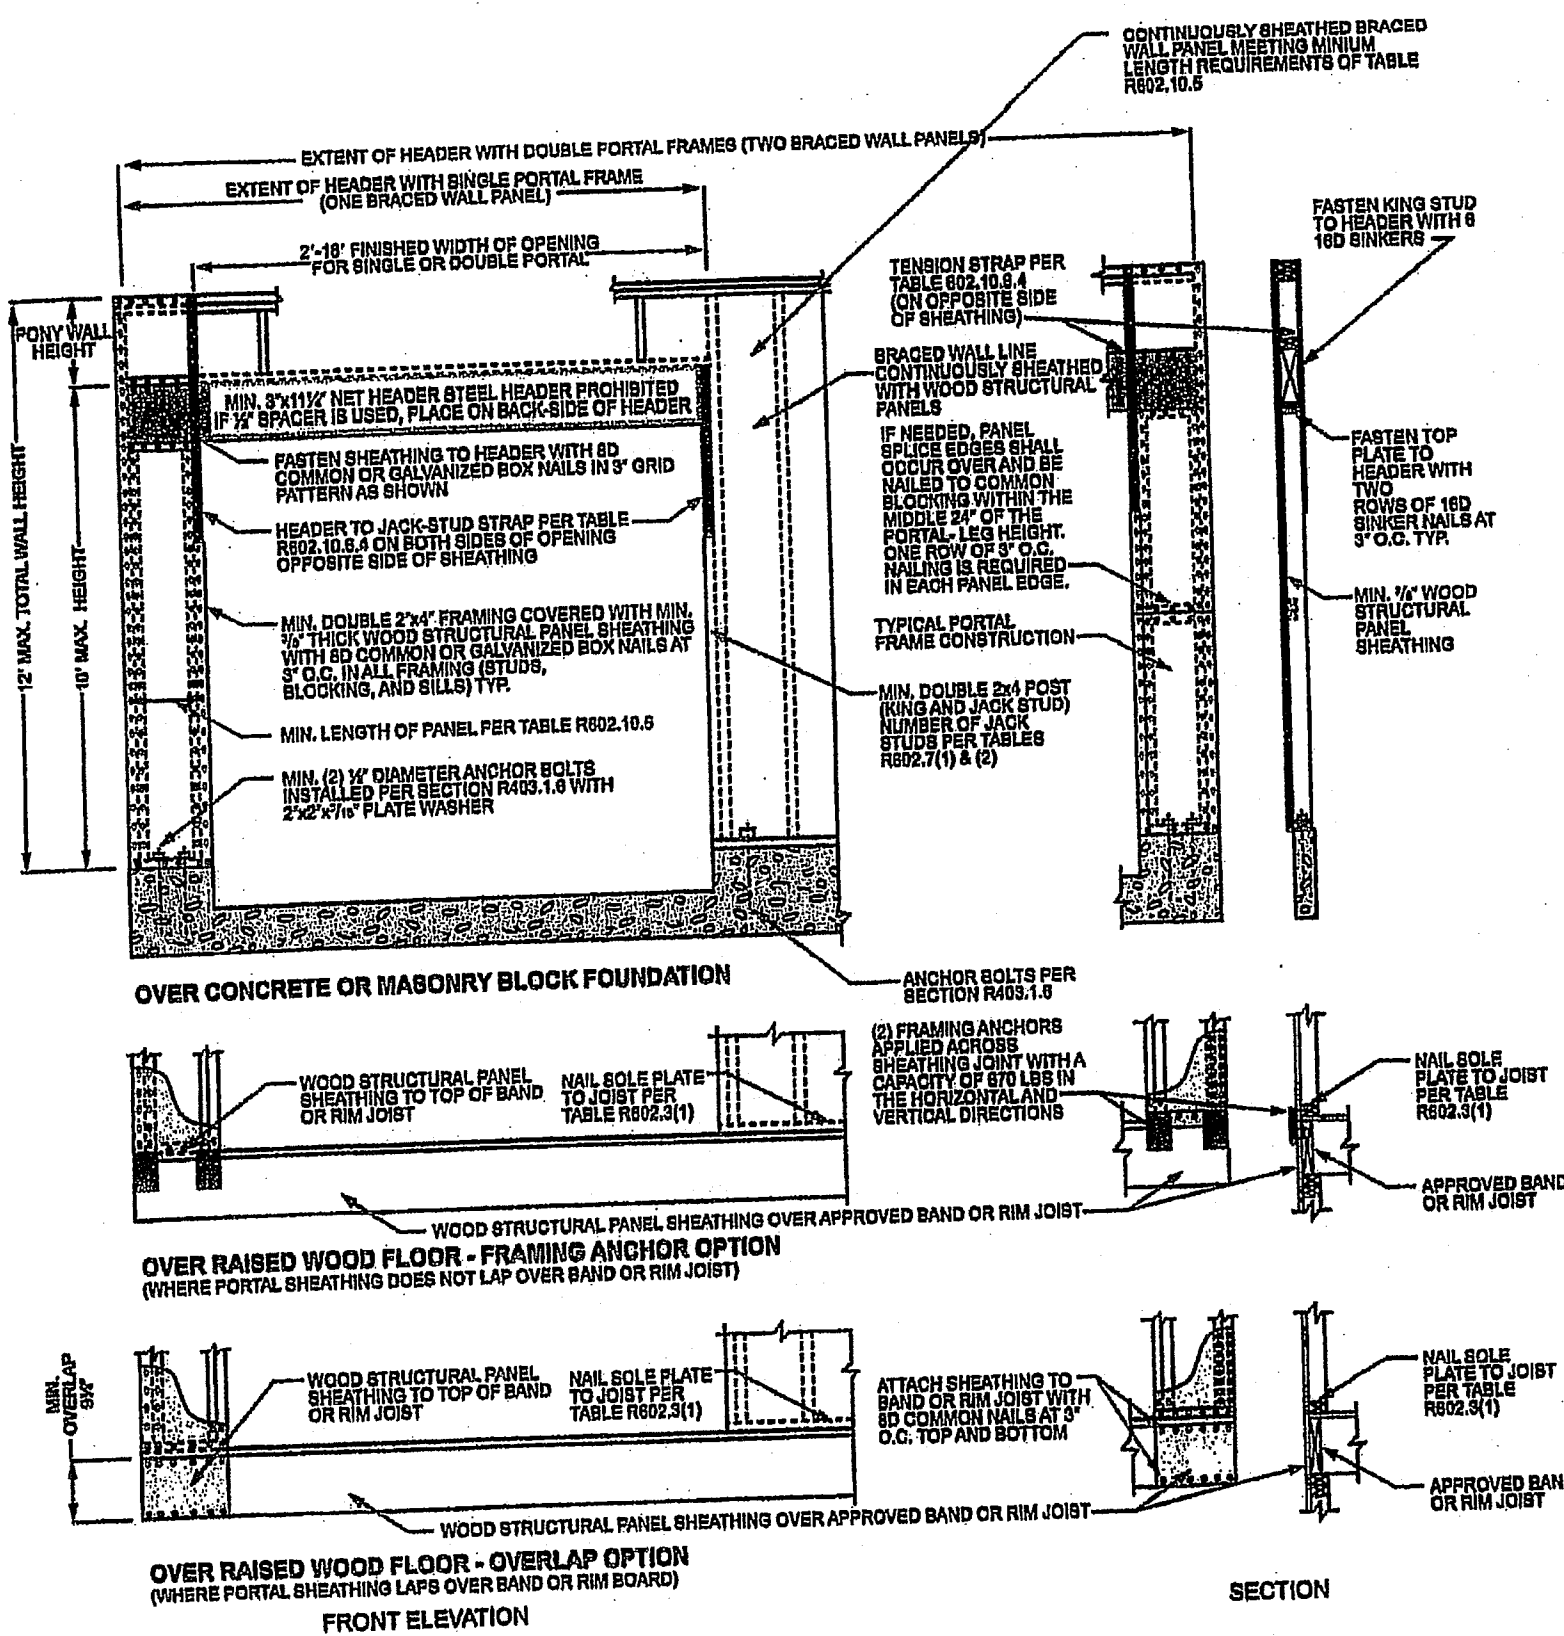

FIGURE R602.10.6.4
d. Maximum header height for FFG is 10 feet in accordance with Figure R602.10.6.3, but wall height shall be permitted to be increased to 12 feet with pony wall.
e. Maximum header height for CS-PP is 10 feet in accordance with Figure R602.10.6.4, but wall height shall be permitted to be increased to 12 feet with pony wall.